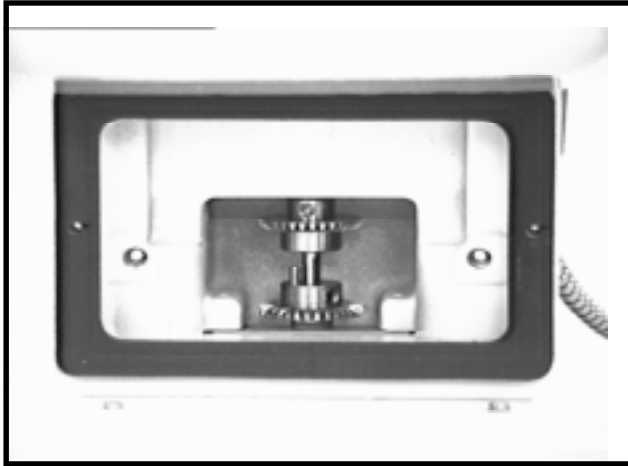

Figure 3
- Remove the two (2) black thumbscrews and lift out the index. Compare the bevel gear placement with figures 3 and 4 to determine if the instrument is setup to work with a CW or CCW instrument drive.